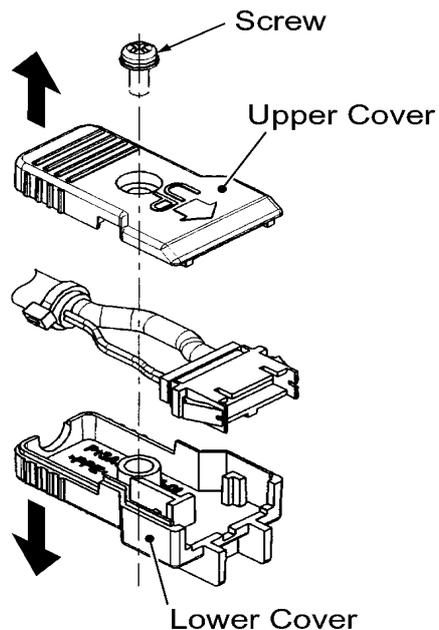

Figure 4.2 Disassembling the Cable Connector
- (1) Remove the fastening screw and disassemble the upper cover and the lower cover as shown in Figure 4.2.